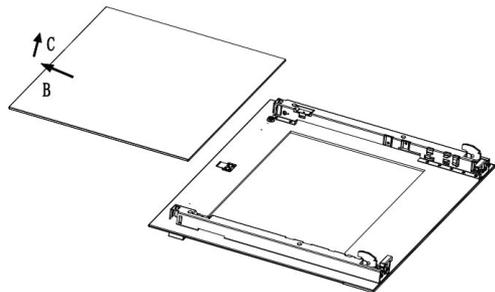

Fig 9
4. Take out middle glass. (Fig.9)